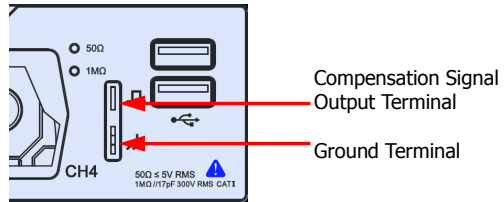

Figure 8 To Use the Compensation Signal
- Connect the ground alligator clip of the probe to the "Ground Terminal" as shown in Figure 8 below.
- Use the probe to connect the input terminal of CH1 of the oscilloscope and the "Compensation Signal Output Terminal" of the probe, as shown in Figure 8.